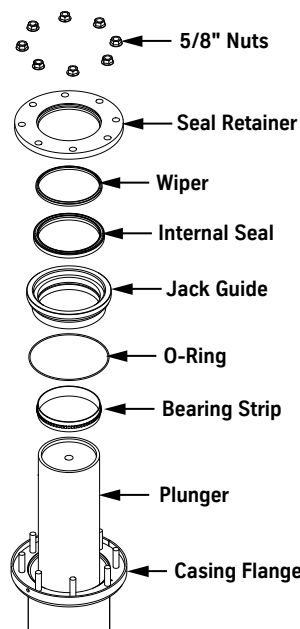

Figure 27 - Guide Assembly Sequence
- Position the casing flange gasket between the guide assembly and casing flange in the casing flange groove. See Figure 27.